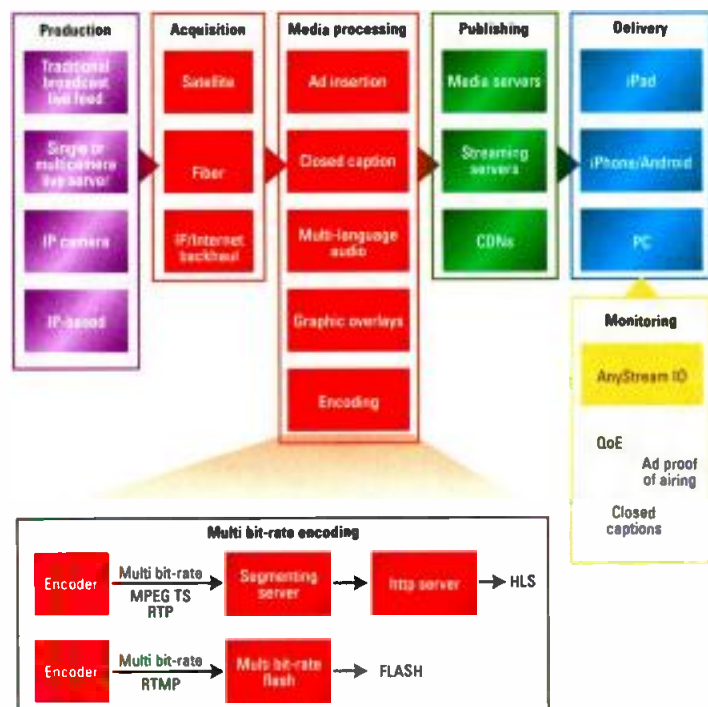

Figure 1. Shown here is the live stream workflow of AnyStream IQ, which provides proof of advertising and web caption compliance.
• Deliver the content to the buffer store or to the content delivery network. (See Figure 1.)
Figure 1. Workflows have to be automated, making intelligent decisions based on the metadata to determine what happens to the material. The workflow engine must be capable of rapid configuration by the user to meet developing needs.
recorded stream. With its cut/clip feature, users can make frame-accurate in-and-out points on video and share the clip for either compliance or proof-of-airing purposes. Figure 1 shows the live stream workflow.